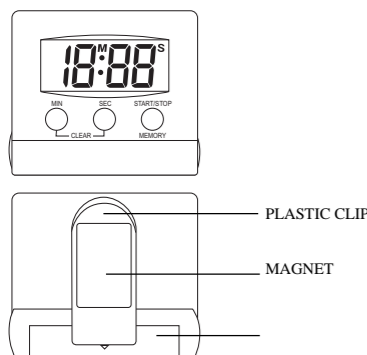

FIG. 1
**TIMER TIME SETTING [FIG. 1]**
**REGLAGE DU TEMPS DU MINUTEUR [FIG. 1]**